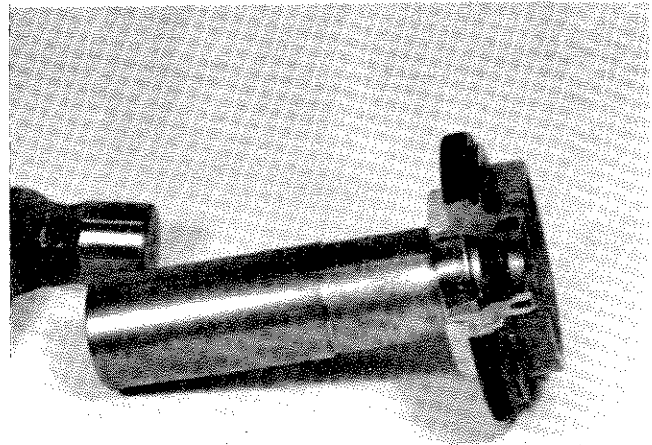

FIG. 5
10. Install bushings (if bearings not used) into cover and case with special bushing driver part #31355. This is a special driver that countersinks bushing to allow for proper lubrication. NOTE: Be sure bushing is replaced with oil slot to inside of case and cover. (FIG. 5)